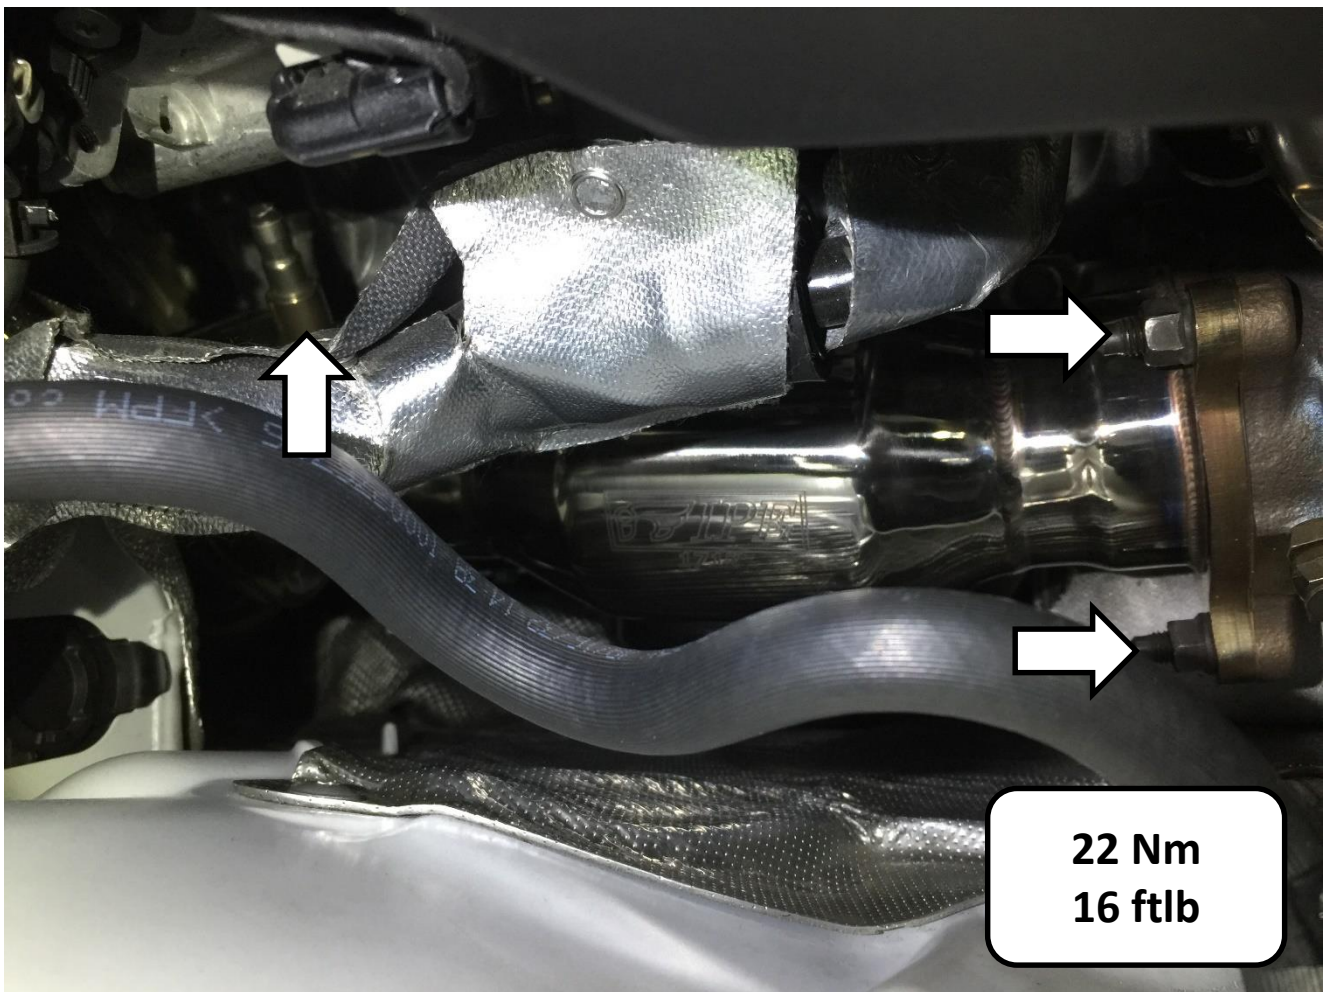

Figure 6
1. Install the cat pipe and locked the oxygen sensor (Figure 6)